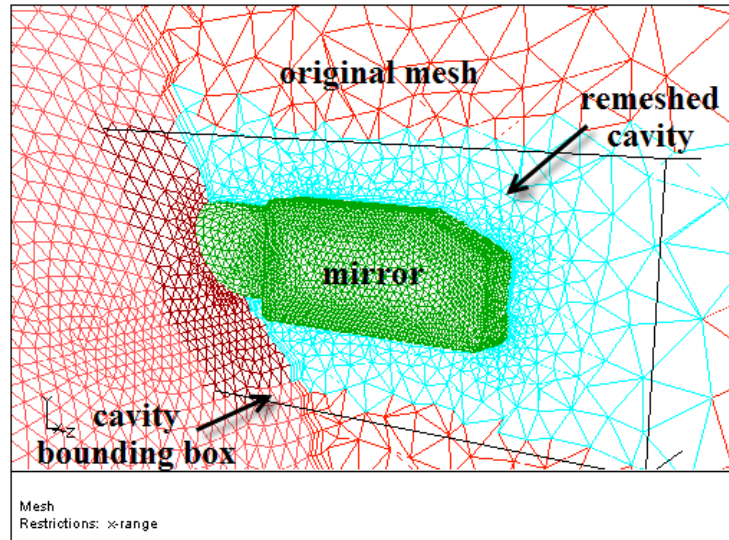

Figure 8.11: Cavity Remeshed With Hybrid Mesh
- L. Click Draw in the Cavity Remesh panel (Figure 8.11).